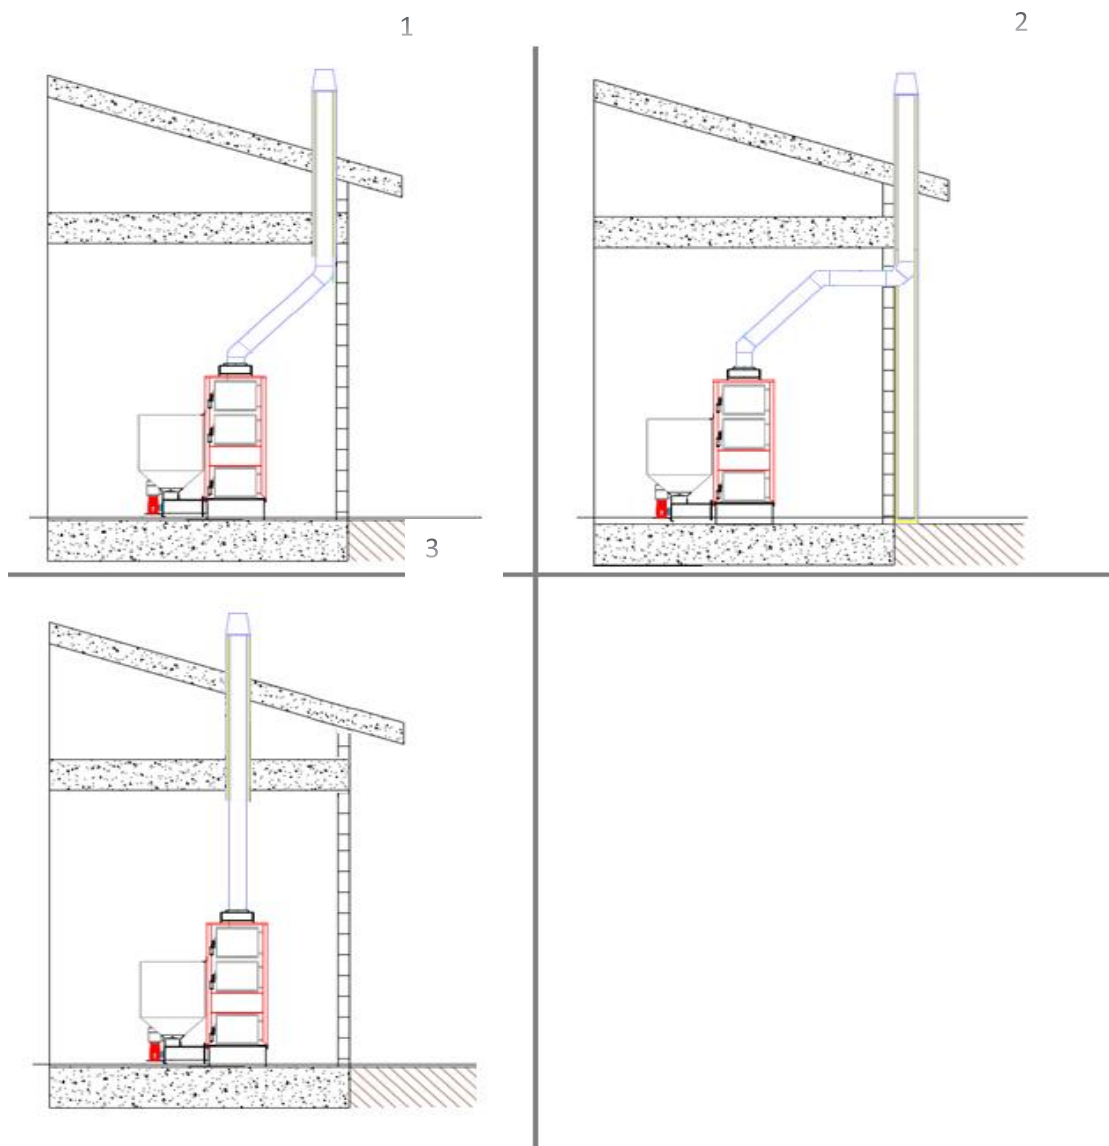

Figure 5
6. In the case of the smoke duct opening to an existing chimney and outlets on the ceiling or wall that are not perfectly perpendicular to the boiler smoke outlet (see cases 1 and 2 of figure 5), a connection of ducts using elbows not exceeding 45°. These should not suffer narrowing and the following will also be attended to:
- ✓ A maximum of 3 elbows (2 45° + 1 90°) are allowed throughout the installation (see case 2 of figure 5)